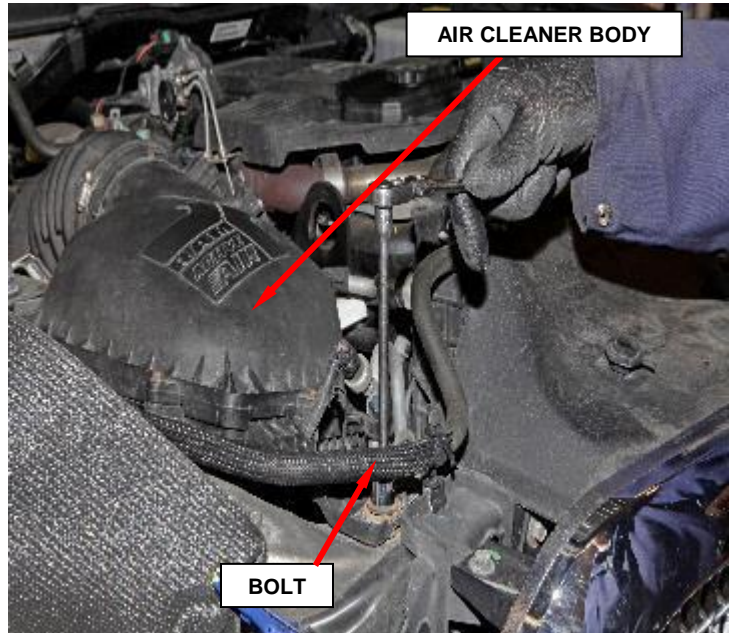

Figure 6 - Air Cleaner Body Bolt
a. Remove the intake air housing bolt (Figure 6).